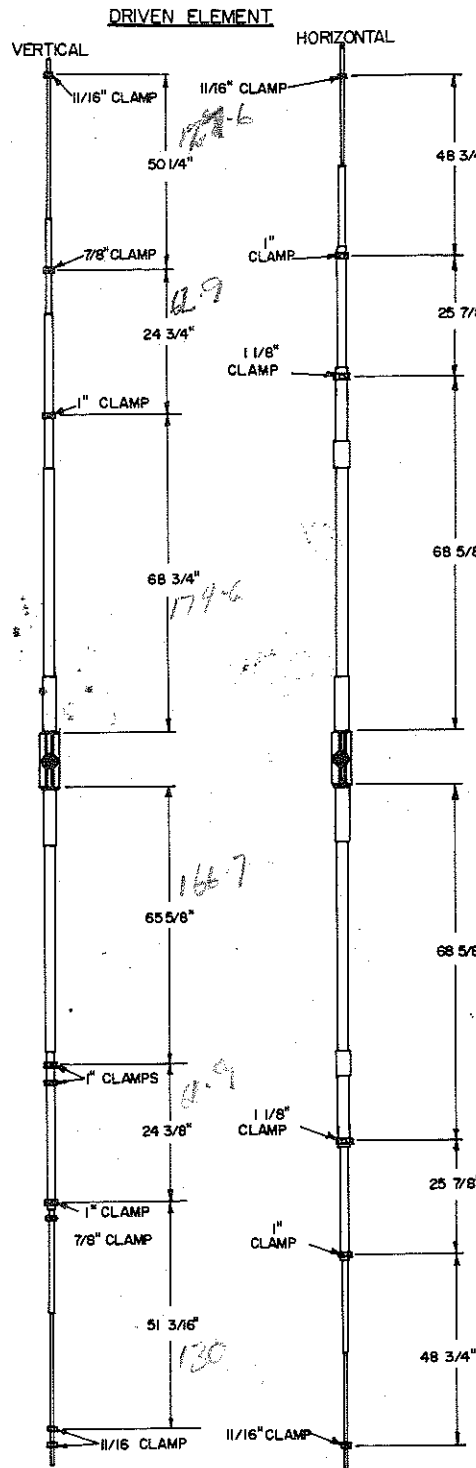

Figure 9. Driven Element Compression Clamp Assembly
() Install the six 1/16" compression clamps, item 29. Slip three of them over the bottom vertical driven element spreader arm as shown in Figure 9. Slip one over the top end of the vertical spreader arm as shown and slip one over each end of the driven element horizontal spreader arm as shown in Figure 9.
() Select two 7/8" compression clamps, item 30, and slip one on the end of each vertical driven element spreader arm and loosely attach them on the 7/8" tubing at the dimensions called for in Figure 9.
() Next, select five of the 1 1/16" compression clamps and place them on each spreader arm at the locations shown in Figure 9.
() Moving the compression clamps out on the spreader arms will create an error when compared to the dimensions in Figures 9 and 13. These are approximate positioning dimensions and may not meet at the end of the antenna assembly. The critical dimensions are the lengths of the element loops, as shown in Figure 14.